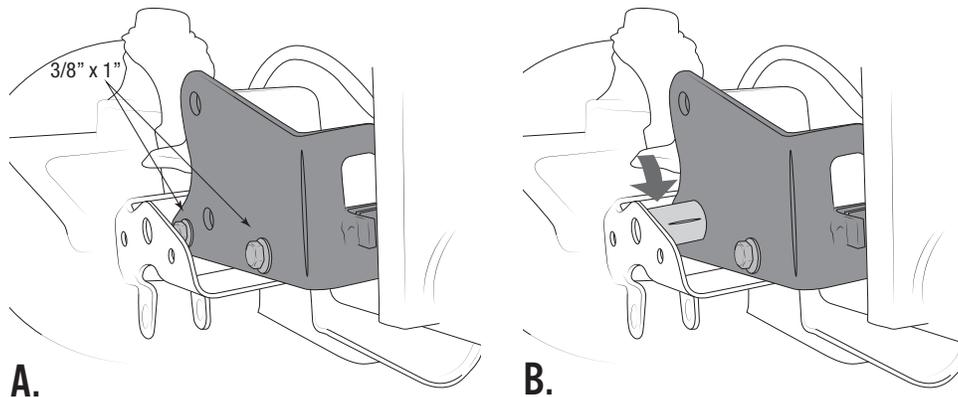

Figure 20
- A. Place bracket with “half moon” cutouts inside the original front track bar bracket and over the axle tube (Fig. 20-A). Insert two of the supplied  $3/8" \times 1"$  L bolts and washers through the small holes in the bracket and the corresponding holes in the stock bracket, then add nuts and hand tighten.
- C. Insert the supplied spacer tube between stock track bar bracket and new bracket (Fig. 20-B), lining it up with the original track bar bolt hole. (This may require slight prying or tapping with a hammer.)